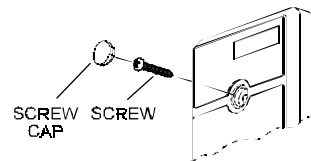

Figure 10. Front Cover Assembly
- Unpack the unit and save the nylon bag with the round plastic cap for later use (see Figure 10).
- A. Carefully position the front cover hole over the LED. Secure the front cover with the screw and the cap (see Fig. 10).